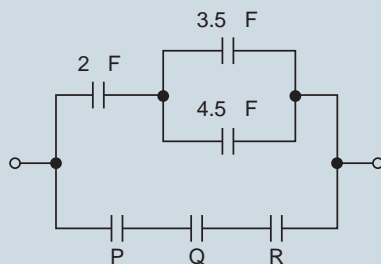

Figure 8.13
9. In Fig. 8.13 capacitors P , Q and R are identical and the total equivalent capacitance of the circuit is $3\mu\text{F}$. Determine the values of P , Q and R